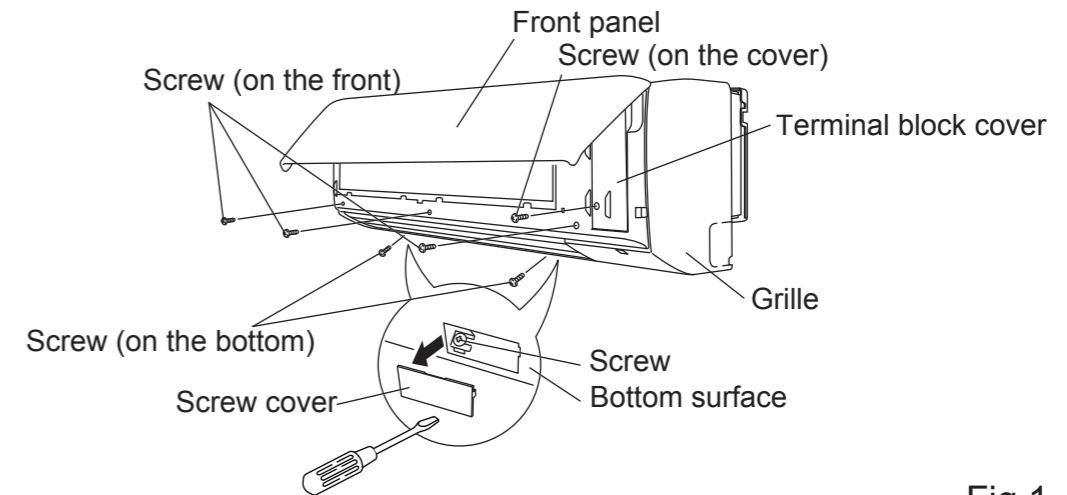

Fig.1
- Remove the two screw covers below the grille and open the front panel. (Fig.1)
- Remove the six screws. (Fig.1)
- Remove the terminal block cover. (Fig.1)
- Press the grille to its original position.Attach six screws and two screw covers. (Fig.1)
- Close the front panel. (Fig.1)